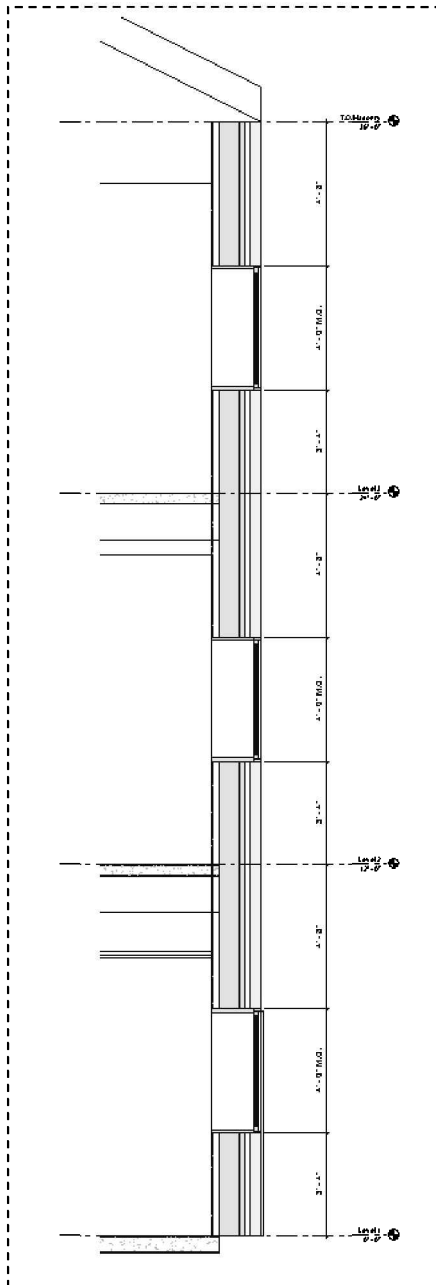

Figure 10-4.4 All dimensions added
- 8. Add the additional dimensions shown in **Figure 10-4.4**; be sure to add the suffixes.